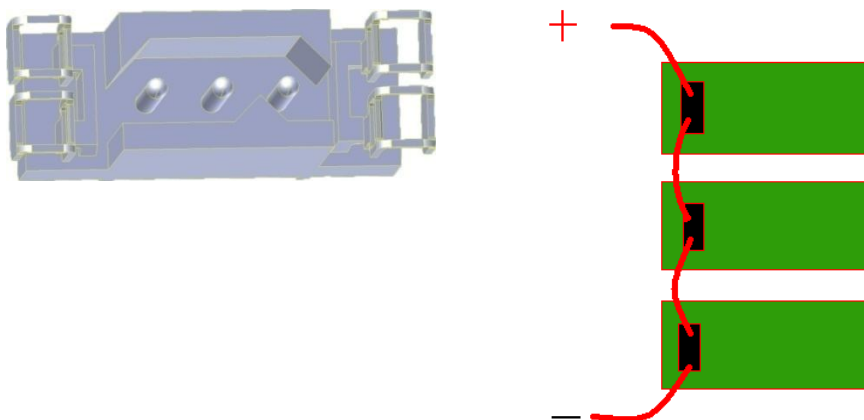

Figure 2
- 3.) If connecting more than one pack, connect current source to each pack via the connector as shown below in *figure 2*.